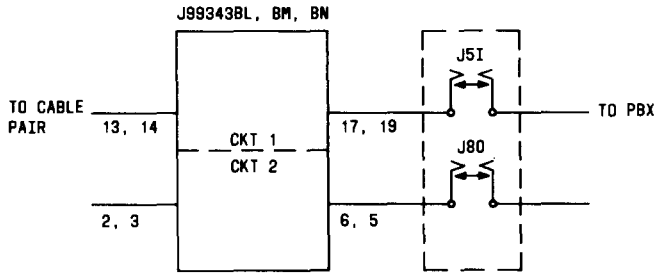

Fig. 4—Test Arrangement for J99343BL, BM, BN
3.03 The adjustment of the impedance compensation networks is performed only when the circuit is out of service. Chart 1 gives the impedance adjustment for the J99343BL and Chart 2 for the J99343BM and BN. Figure 4 shows the test arrangement used for the impedance adjustment test. The tests require the following equipment or equivalent: